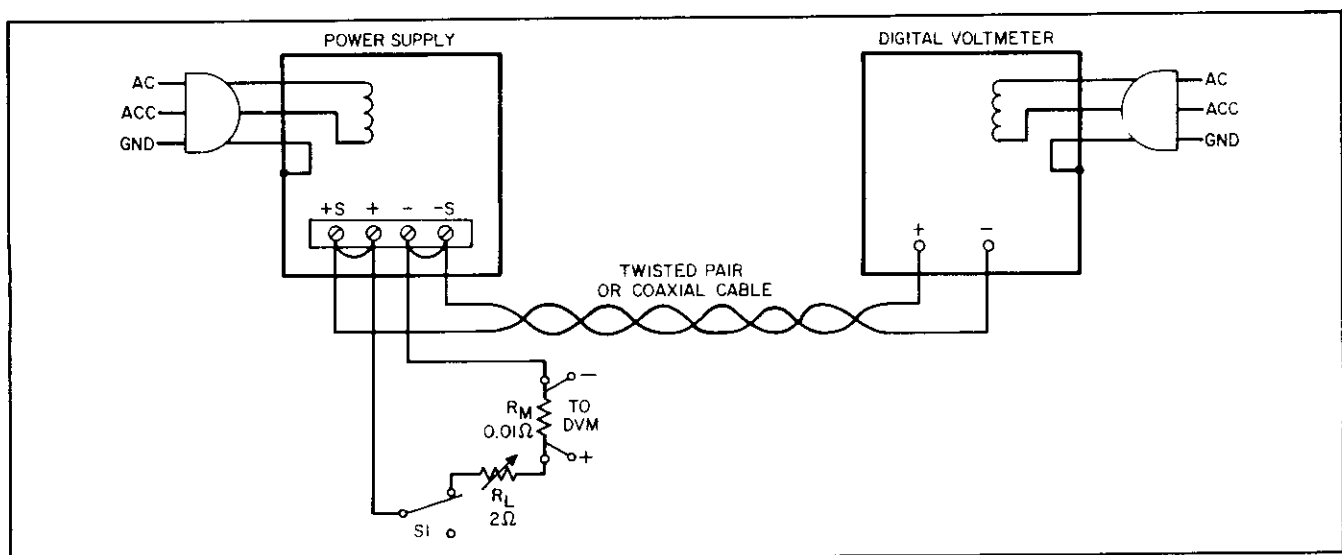

Figure 5-2. Constant-Voltage Test Setup
- a. Connect test setup shown in Figure 5-2. Set R_L to maximum resistance initially.
- a. Connect test setup shown in Figure 5-2.
- Connect load resistance and digital voltmeter as illustrated in Figure 5-2.
- Connect load resistance and digital voltmeter (DVM) as illustrated in Figure 5-2.